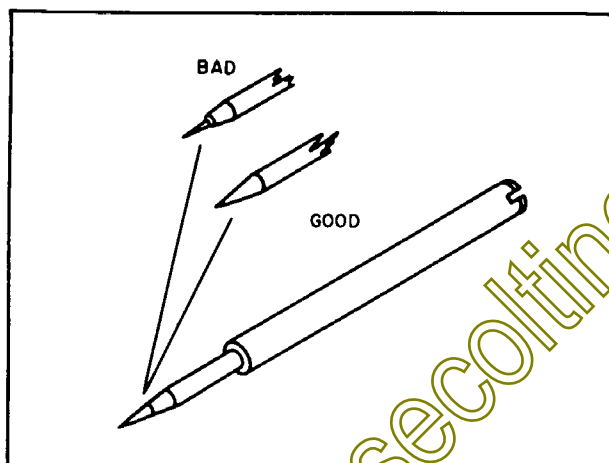

Figure 4-6
Remove the idle screw from the carburetor body and examine the point for damage to the seating surface on the taper. (Figure 4-6) If damaged; replace the idle adjusting needle. Tension is maintained on the screw with a coil spring and sealed with an "O" ring. Examine and replace the "O" ring if damaged.
For service examine the taper of the high speed adjusting screw. (Figure 4-6) If the taper is damaged at the area where it seats,
- a. Examine the inlet needle. If any wear is evident, or any of the corners show signs of rounding, the needle should be replaced. See Figure 4-6.